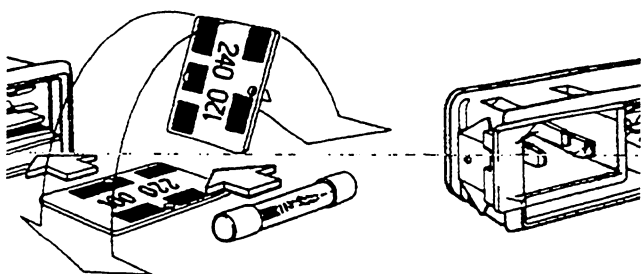

Figure 2-1. Voltage Selector and Fuse
Conversion to other input voltage requires a change in rear panel fuse holder voltage card position and fuse (figure 2-1) according to the following procedure.
2. Read the voltage on the voltage selection printed circuit card inside the power/fuse case. Leave the card installed if the number matches the voltage needed (see the table below). To change to a different voltage, pull the card and reinsert it as shown in figure 2-1.